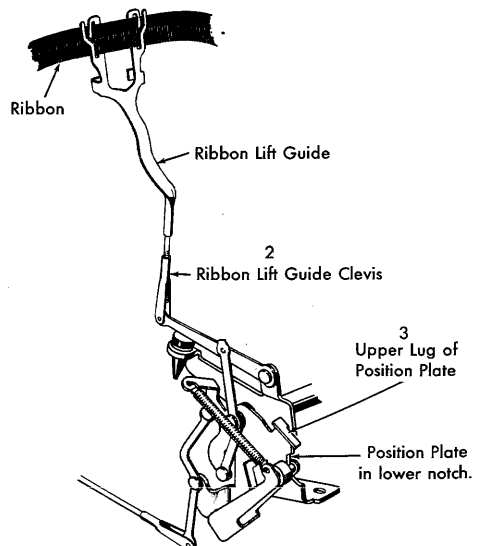

Figure 53. Ribbon Tracking Adjustments
2. Adjust the ribbon lift guide clevis so that the tops of the tallest characters strike $\frac{1}{32}$ " below the upper edge of the ribbon when the ribbon lift is at its lowest, or black, setting (Figure 53).
3. Form the upper lug of the positioning plate so that the diagonal strikes about $\frac{1}{32}$ " from the bottom edge of the ribbon when the ribbon lift is at its highest, or red, setting (Figure 53).